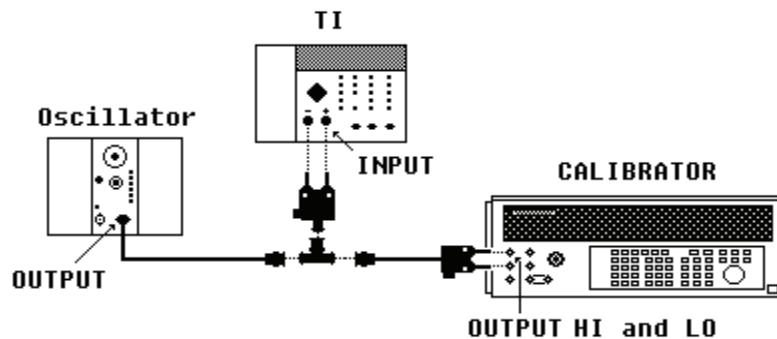

Figure 4. Distortion - equipment setup.
(1) Connect equipment as shown in figure 4.